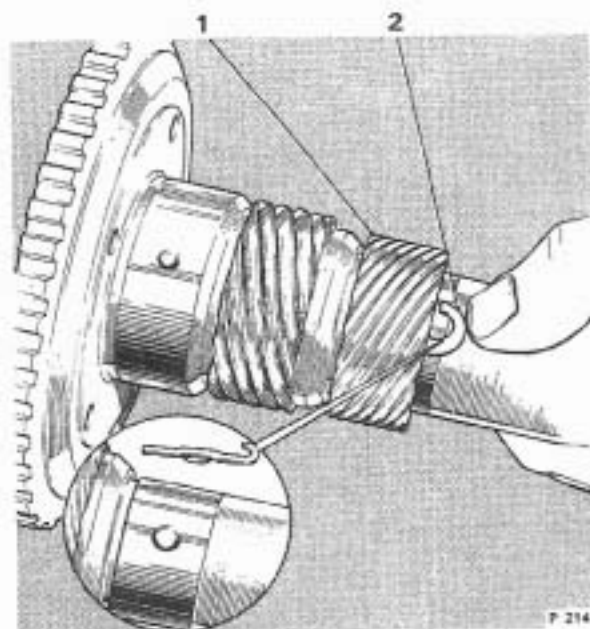

FIG. T270 REMOVING NYLON SPEEDOMETER DRIVE GEAR
1. If a **nylon gear** is fitted to the shaft, depress the retaining clip and slide the gear off the output shaft (see Fig. T270).